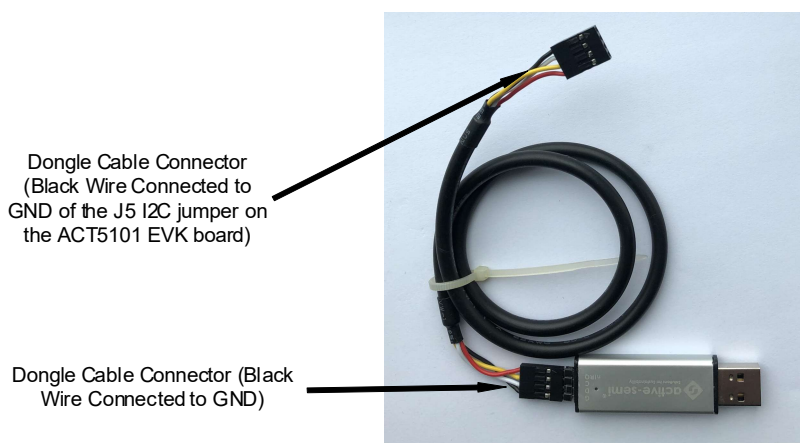

Figure 3. USB-TO-I2C Dongle Connection
3. Connect the USB-TO-I2C dongle to the EVK J5 connector. Refer to Figure 3 to ensure the correct polarity of the connection. As a guide, use the “Active-Semi” logo on the top of the dongle so the black wire is connected to the Dongle GND pin.